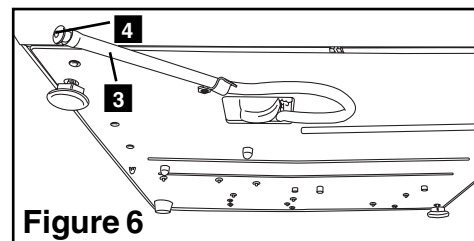

Figure 6
To prime the Statim pump, follow these steps (see Figure 6):
2. Using the drain tube (see Section 3.5 Priming the Pump, Figure 6) empty the contents of the reservoir into the water container.